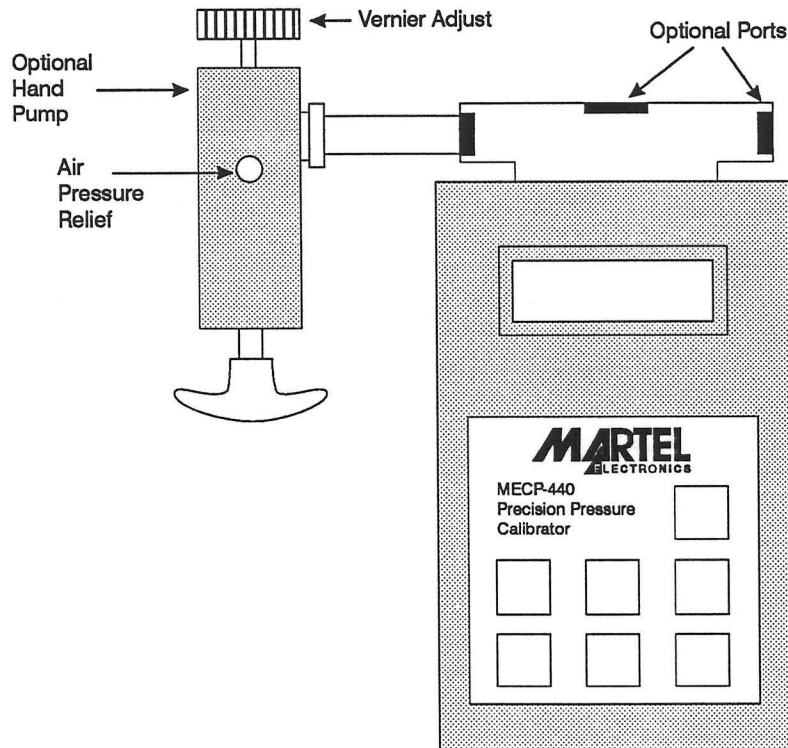

Figure 1 - Front View
4. If the optional hand pump is being used, one of the side manifold plugs must be removed to complete the connection. (See figure 1). A 3/16" Allen wrench is supplied for removing and retightening these plugs. For ease of use, the pump can be attached on either side of the manifold.